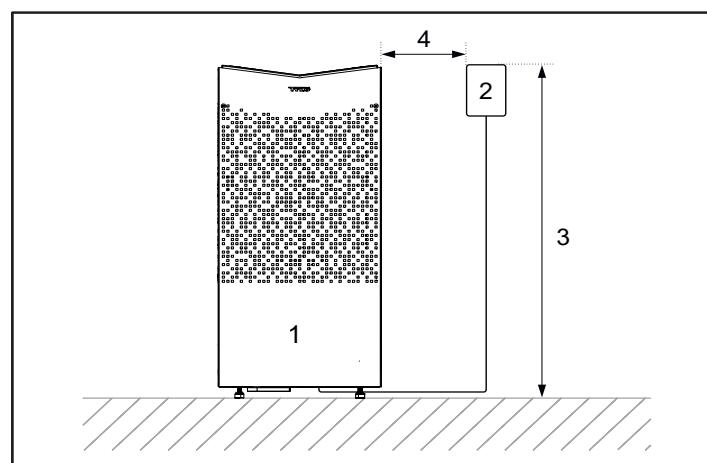
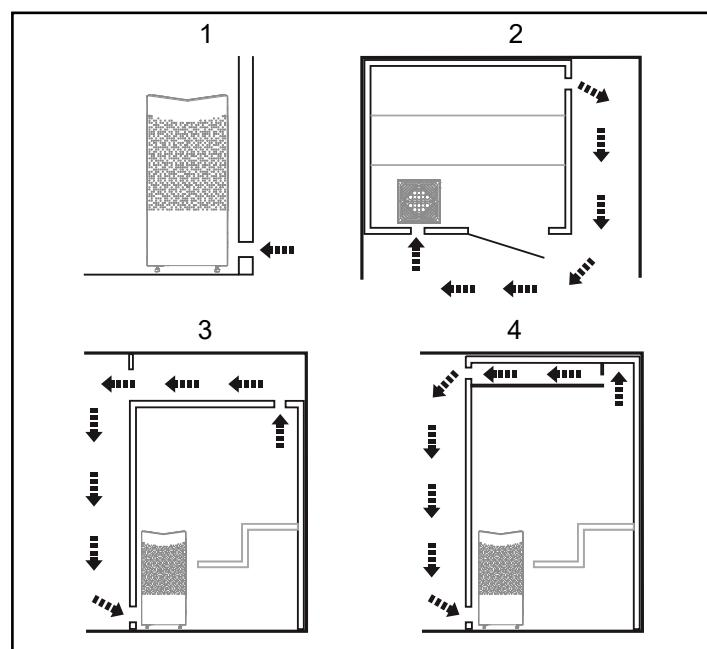

Figure 5: Safety distance / installation height, control panel
Figure 6: Positioning the air intake and exhaust vents
- Plan the control panel positioning (see the attached instructions for the control panel for allowable positioning). See also the Control Panel section, Figure 5).
- Position the air intake vent (see the Air intake vent positioning section, Figure 6).
- Position the air exhaust vent (see the Air exhaust vent positioning section, Figure 6).
Where possible, placement of the control panel outside the sauna room is recommended due to lower ambient temperatures. The control panel may be placed inside a Tylö sauna room or a self-built sauna room with correct ventilation which operates according to Tylö-recommended ventilation (natural ventilation principle). Read the sections titled, Positioning the intake vent and Positioning the outlet vent in these instructions, figure 6. The control panel must always be placed outside the sauna cabin if these requirements are not met. If installing the control panel inside the sauna cabin, it should be positioned with regard to safety distances and installation height, see Figure 5.
- at the maximum possible distance from the air intake vent, e.g. diagonally (see Figure 6).
- high on the wall or in the ceiling (see Figure 6).